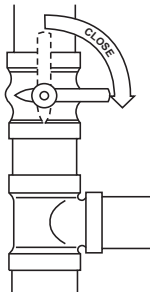

Fig. 5 – Close Valve
2. Close the external manual gas valve (see Fig. 5).